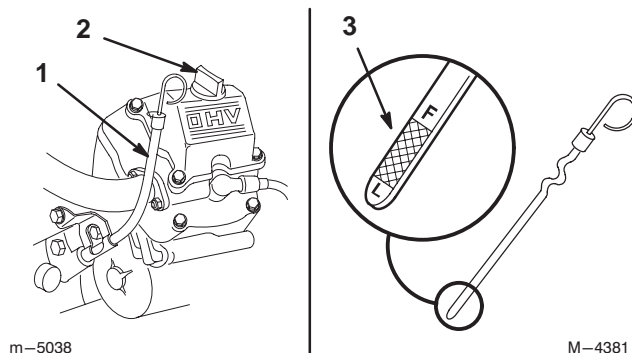

Figure 27
2. Clean around the oil dipstick so dirt cannot fall into the filler hole and damage the engine (Fig. 27).
3. Pull the oil dipstick out and wipe the metal end clean (Fig. 27).
4. Slide the oil dipstick fully into the filler cap. Pull the dipstick out and look at the metal end (Fig. 27). If oil level is low, slowly pour only enough oil into the filler tube to raise the level to the "FULL" mark.
5. Slowly pour approximately 80% of the specified amount of oil, page 32, into the filler tube (Fig. 27). Now check the oil level; refer to Checking Oil Level, page 33. Slowly add additional oil to bring to "FULL" mark on dipstick.